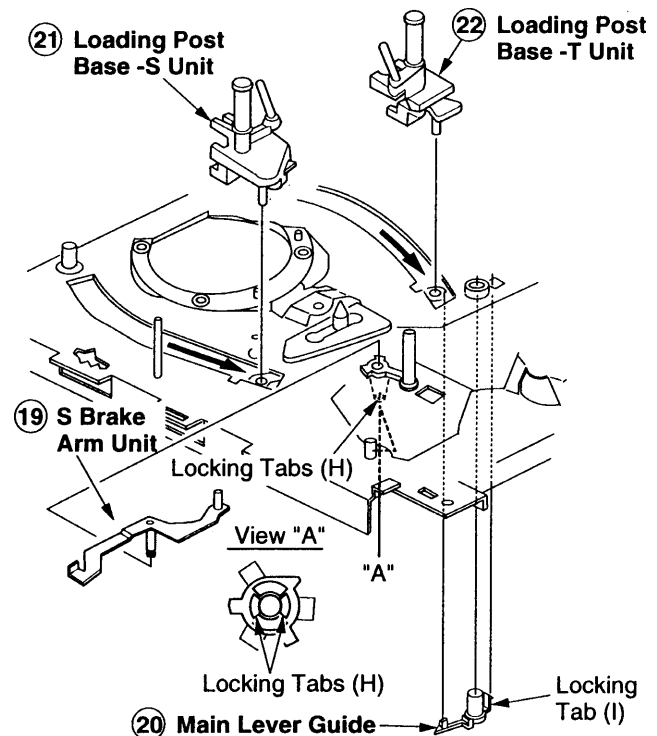

Fig. 16 - S-Brake Arm Unit/Main Lever Guide/Loading Post Base-S/Loading Post Base T-Unit Removal
**S-Brake Arm Unit/Main Lever Guide/Loading Post Base-S/Loading Post Base T-Unit Removal (Fig. 16)**
1. Release two (2) locking tabs (H) and release the S-brake arm.
2. Release one (1) locking tab (I) and remove the main lever guide.